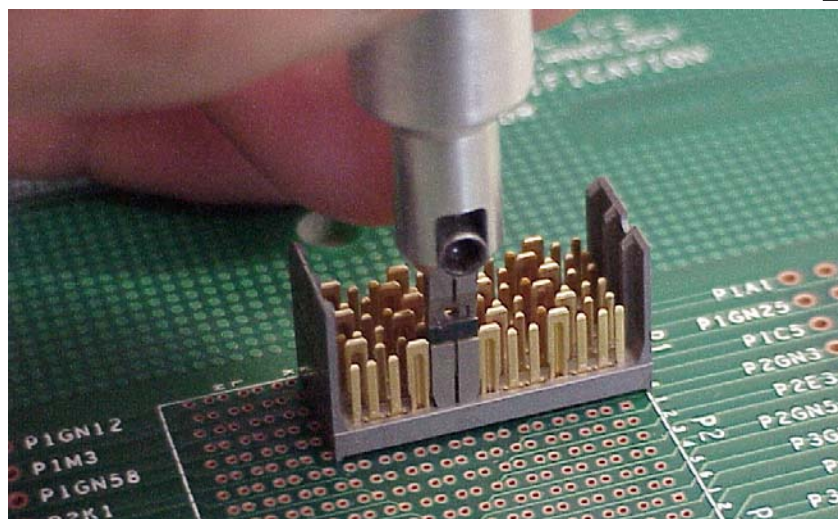
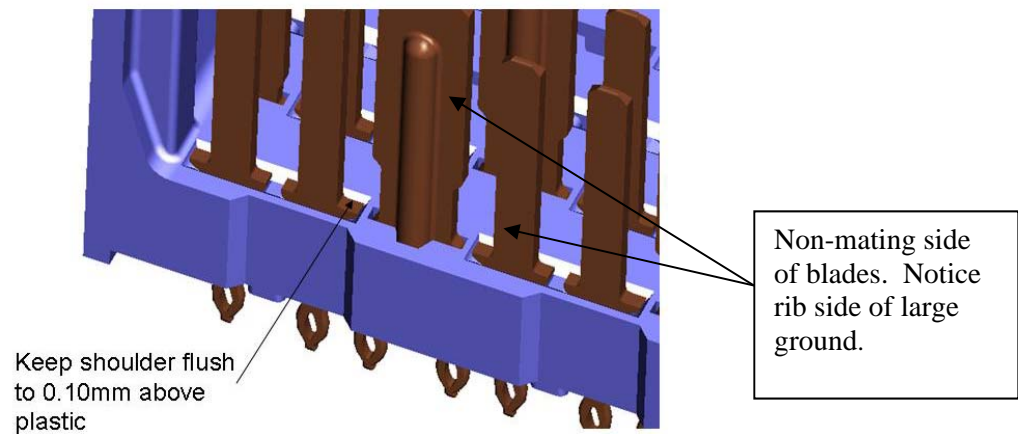

Figure 8. Fully Seated Signal Pair
Figure 9. Maximum Shoulder Height
- 5.1.8 Align pair to empty coring in module and apply pressure downward as shown in Figure 8. While holding tool vertical to module/board, tap tool with a small hammer to seat contacts into module/board. Fully seated signals can be seen in Figures 9.
- 5.1.1 Inspect module/board under microscope for proper orientation of signal blades and proper seating height. Maximum shoulder height is 0.10mm above module surface shown in Figure 9.